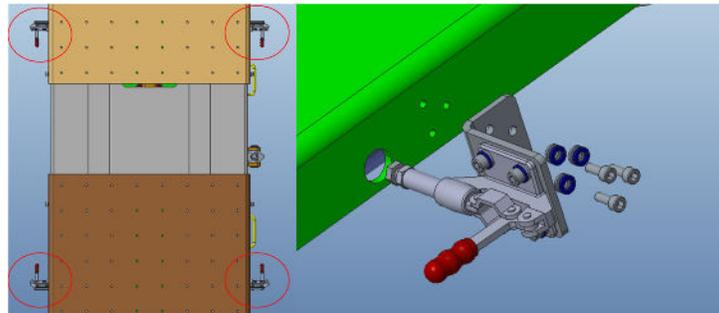

Fig.7.1.8 Clamp Bracket Assembly
- G. Complete the Clamp Bracket Assembly (4 pcs) assembly (Fig.7.1.8).